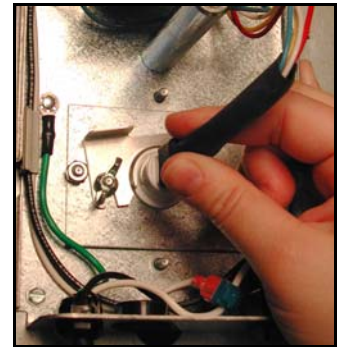

Figure 18
10. Plug ballast plug into end of lamp. (See Figure 18)